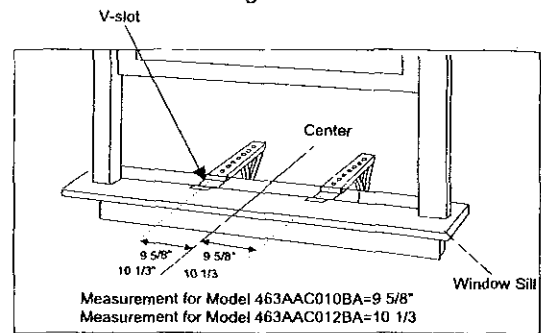
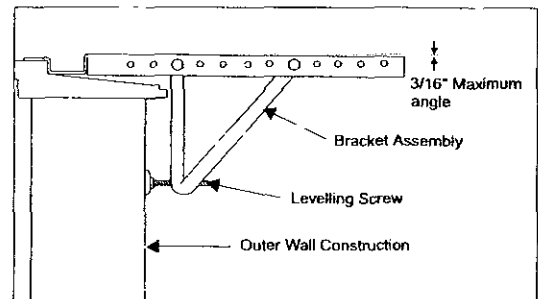

Fig 11
Fig 12
B Measure the inside window sill width and find the center as shown in (Fig 11) Align the V-slot in each bracket on these marks and mount the brackets to the sill using (4) 3/4" screws Brackets should be perpendicular to the inside window sill, see (Fig. 12).
C For proper condensation run-off it will be necessary to adjust the angle of the window brackets This is accomplished by adjusting the leveling screw on the outer wall The maximum angle should not exceed more than 3/16" See (Fig 12)